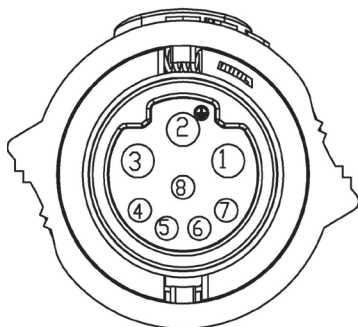

Figure 18: VPL female connector
5. Insert the crimped pin in the clamp ring according to the illustration in figure 18.
The VPL Series has a female multi-core 8 pin cable located in the first end of the VPL, and a male multicore 8 pin connector in the last end of the VPL. The 8 pins are divided by 1xShield, 3xPower, 4xSignal (see figure 18).